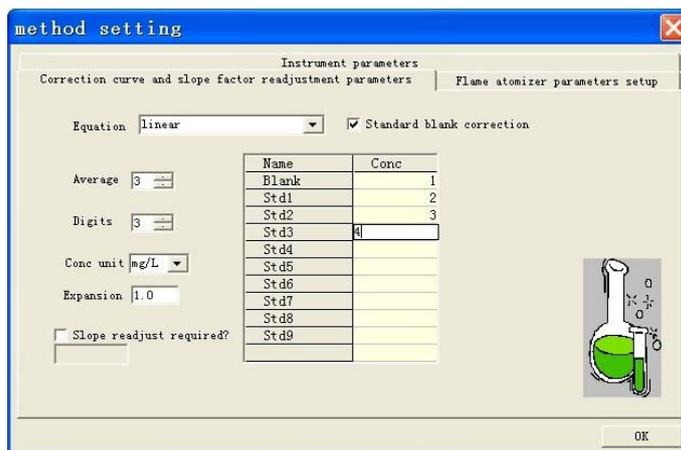

Figure 5-9
6. Select "Linear method" in the "Equation selection" pull-down list. Determine the conditions based on the actual needs. See Figure 5-9. (Attention: At least 2 standard sample points should be entered.)